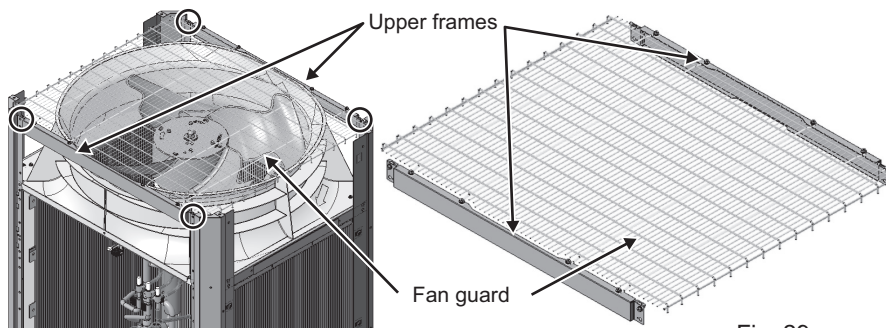

Fig. 29
- (6) Remove the fan guard and the upper frames. (Four screws: Fig. 29)